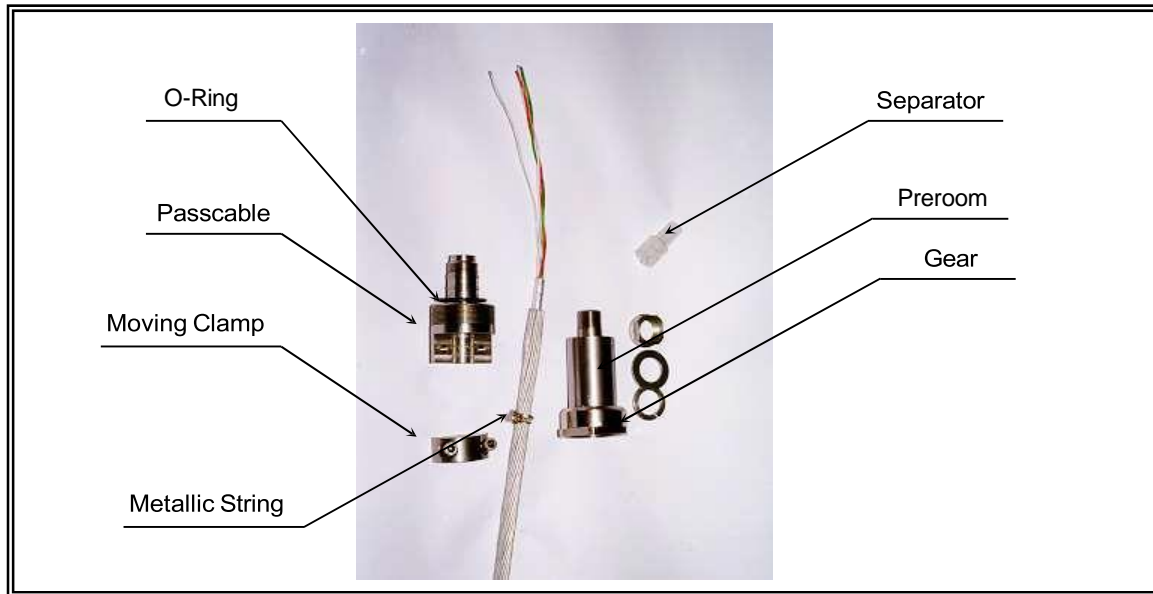

Fig. 4
c) Fixing OPGW in the Passcable (see the Figure 4. for main assembling particulars)